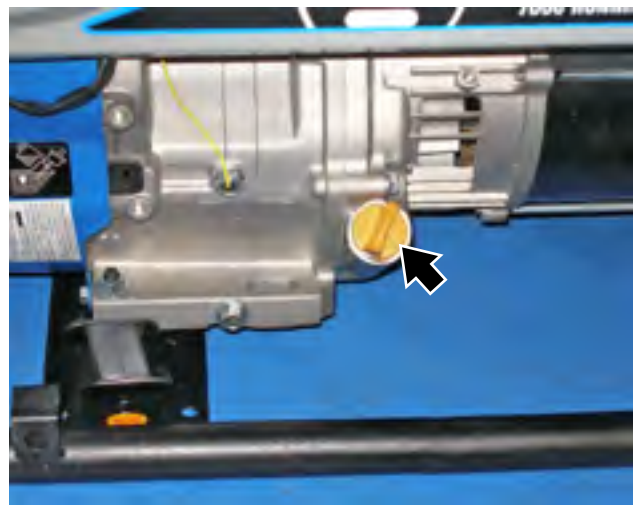

Figure 26 – Oil Fill Plug/Dipstick
5. Remove oil fill plug/dipstick (*see Figure 26*).